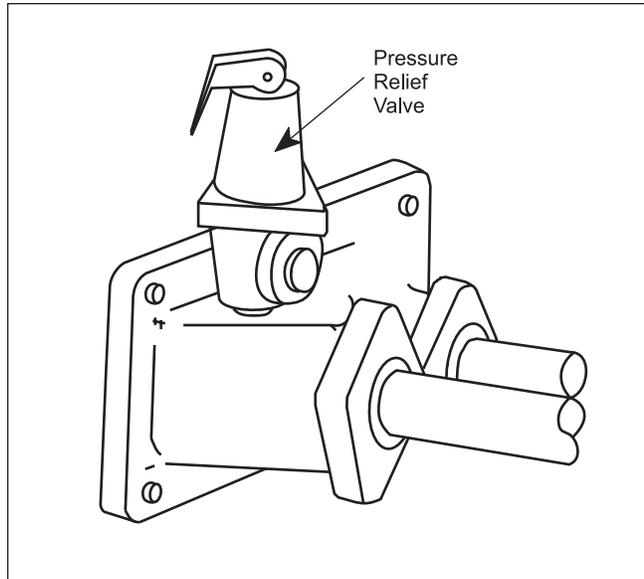

Figure 9. Pressure Relief Valve Location.
- The pressure relief valve installed in the tapped opening provided in the outlet header (see Figure 9), must be piped, but not fastened, to a drain or floor sink. The drain pipe must be the same size as the valve outlet and must pitch downward from the valve.